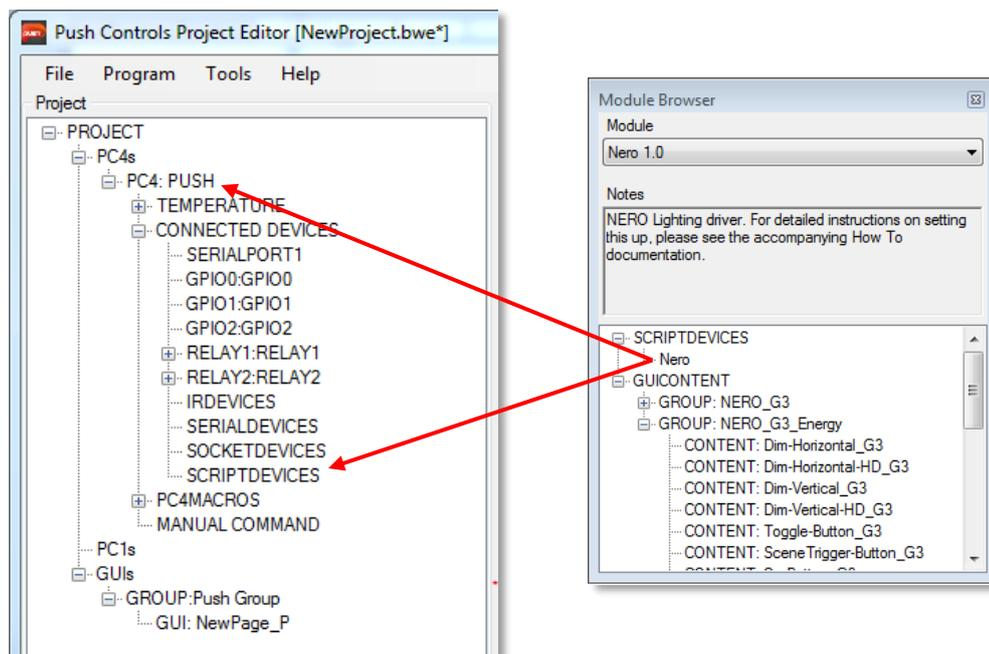

Figure 3 – Dragging and dropping scripts from the Module Browser window
The selected module will now appear in the module browser window (See Figure 3), where you can see everything that is included in the module.
Each of the elements contained in the module need to be dragged and dropped into their respective positions within the project. The items under the SCRIPTDEVICES category need to be dragged onto the desired controller. The GUICONTENT area can include any number of the following items POPUP, CONTENT or SCRIPT and are imported in the following manner *Refer to Figure 3:*
- CONTENT requires an existing page to be dragged in to. To include content you can either drag it onto the page name (see Figure 3) or drag onto an open GUI page (hold down shift to drag the content to any position on the page). Some modules will have examples of a full page and will have '_P' or '_L' appended to the content name, which denotes Portrait or Landscape. To import whole page content a page needs to be made, which matches the resolution of the page being imported.